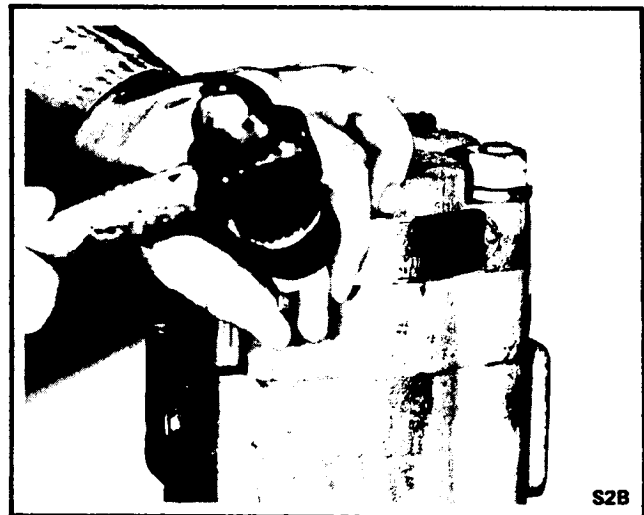

Fig. 3—Match-marking Pump Sections
**CAUTION:** Do not grip on or near any machined surfaces during assembly or disassembly. Index mark all sections with a prick punch. Be sure to align these marks when assembling pump. See Fig. 3.